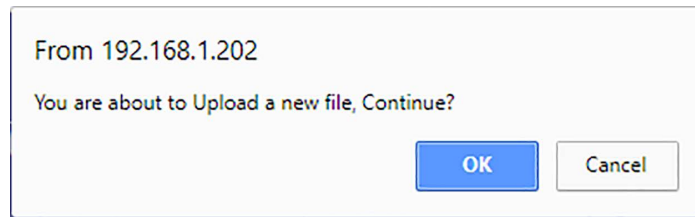

Figure 5-17 - Confirm Upload Dialog
5. Click **Upload**. The following dialog appears (see Figure 5-17):